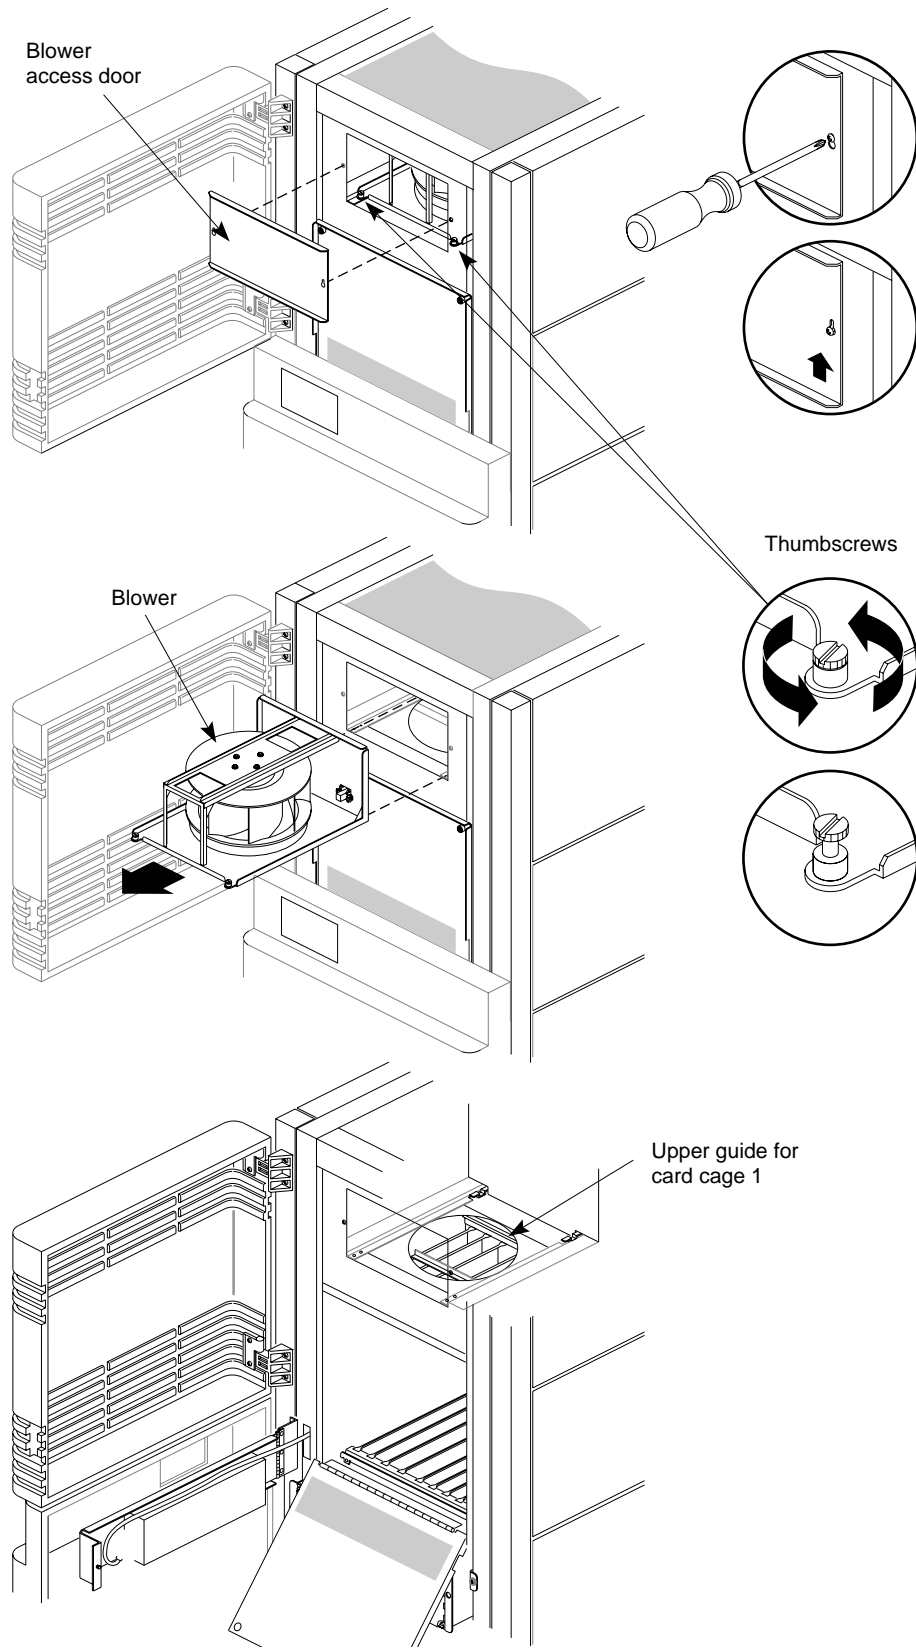

Figure 3-39 Removing the Blower Assembly
7. Slide the SCSIBox into the enclosure until the flange on either side of the box contacts the system chassis. Fasten the box in place with the spring-loaded quarter-turn screws mounted on the flanges (see Figure 3-39).